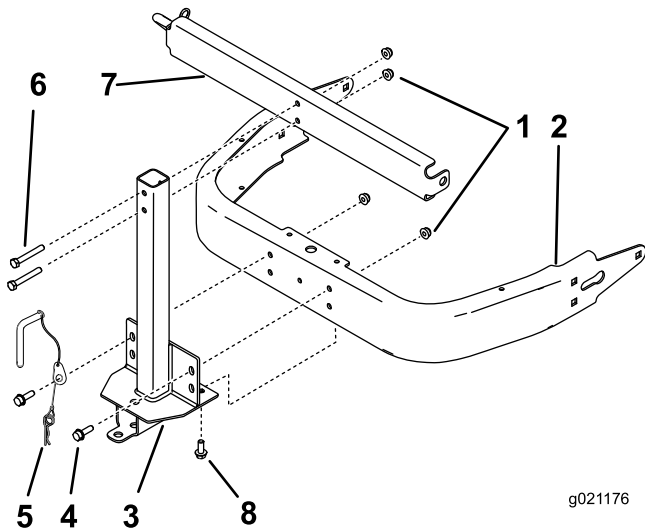

Figure 1
2. Using the top 2 holes, install the tray mount assembly and pin assembly to the machine using 2 bolts (5/16 x 1 inch) and 2 locknuts (5/16 inch) (Figure 1).
3. Install the tray mount assembly to the bottom of the machine using 2 self tapping bolts (5/16 x 3/4 inch)(Figure 1).
4. Install the support bracket to the tray mount assembly with 2 bolts (3/8 x 2-1/4) and 2 locknuts (5/16 inch) (Figure 1).